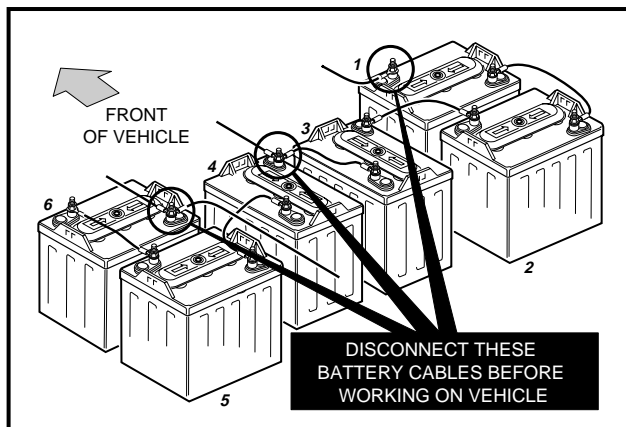
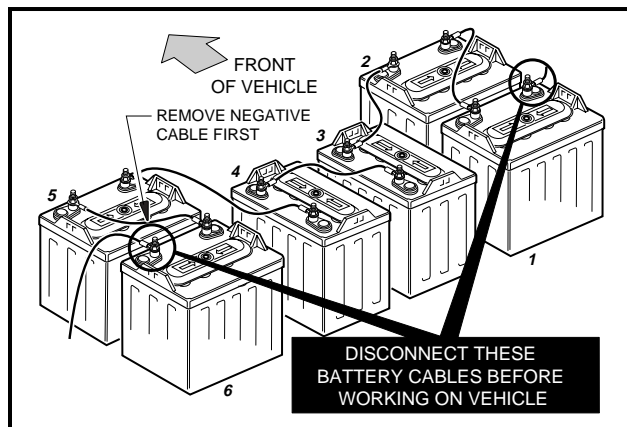

Figure 1 V-Glide 36-Volt Vehicle
Figure 2 PowerDrive System 48 and PowerDrive Plus Vehicles
- TO AVOID UNINTENTIONALLY STARTING THE VEHICLE, DISCONNECT THE BATTERIES AS SHOWN (**FIGURE 1 AND FIGURE 2, PAGE 2**). **ON POWERDRIVE SYSTEM 48 AND POWERDRIVE PLUS VEHICLES**, DISCHARGE THE CONTROLLER AS FOLLOWS: